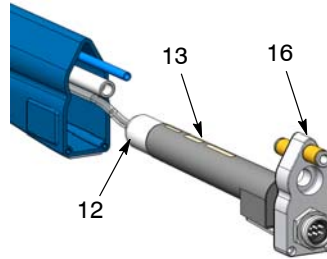

Figure 39 Pulling Multiplier out of Housing
7. See Figure 39. Pull the heat sink (16), with multiplier (13) attached, out of the housing, until you can grasp the multiplier nut (12).